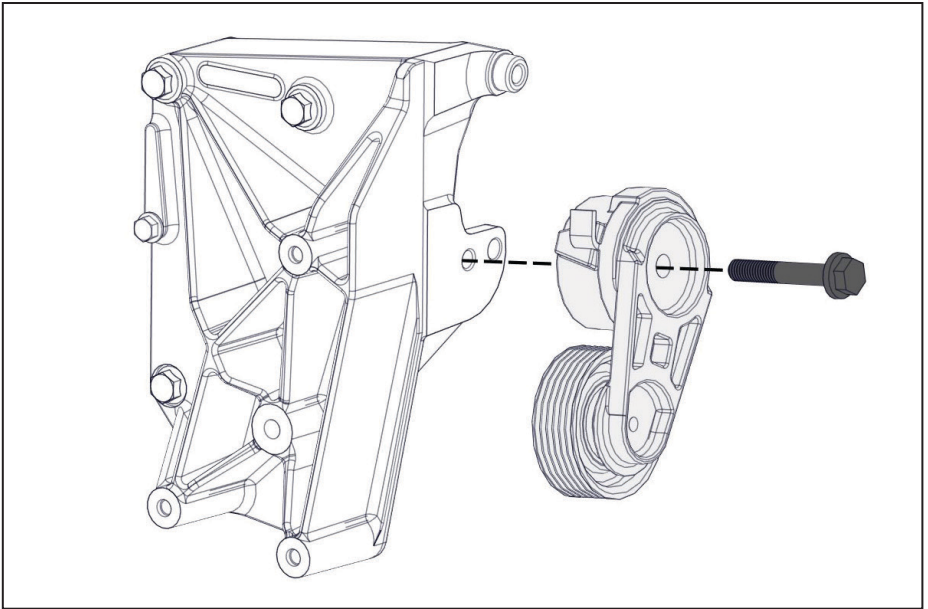

Figure 11 — Install tensioner
- Remove the tensioner, apply Loctite 242 (blue), and reinstall the tensioner (Figure 11).